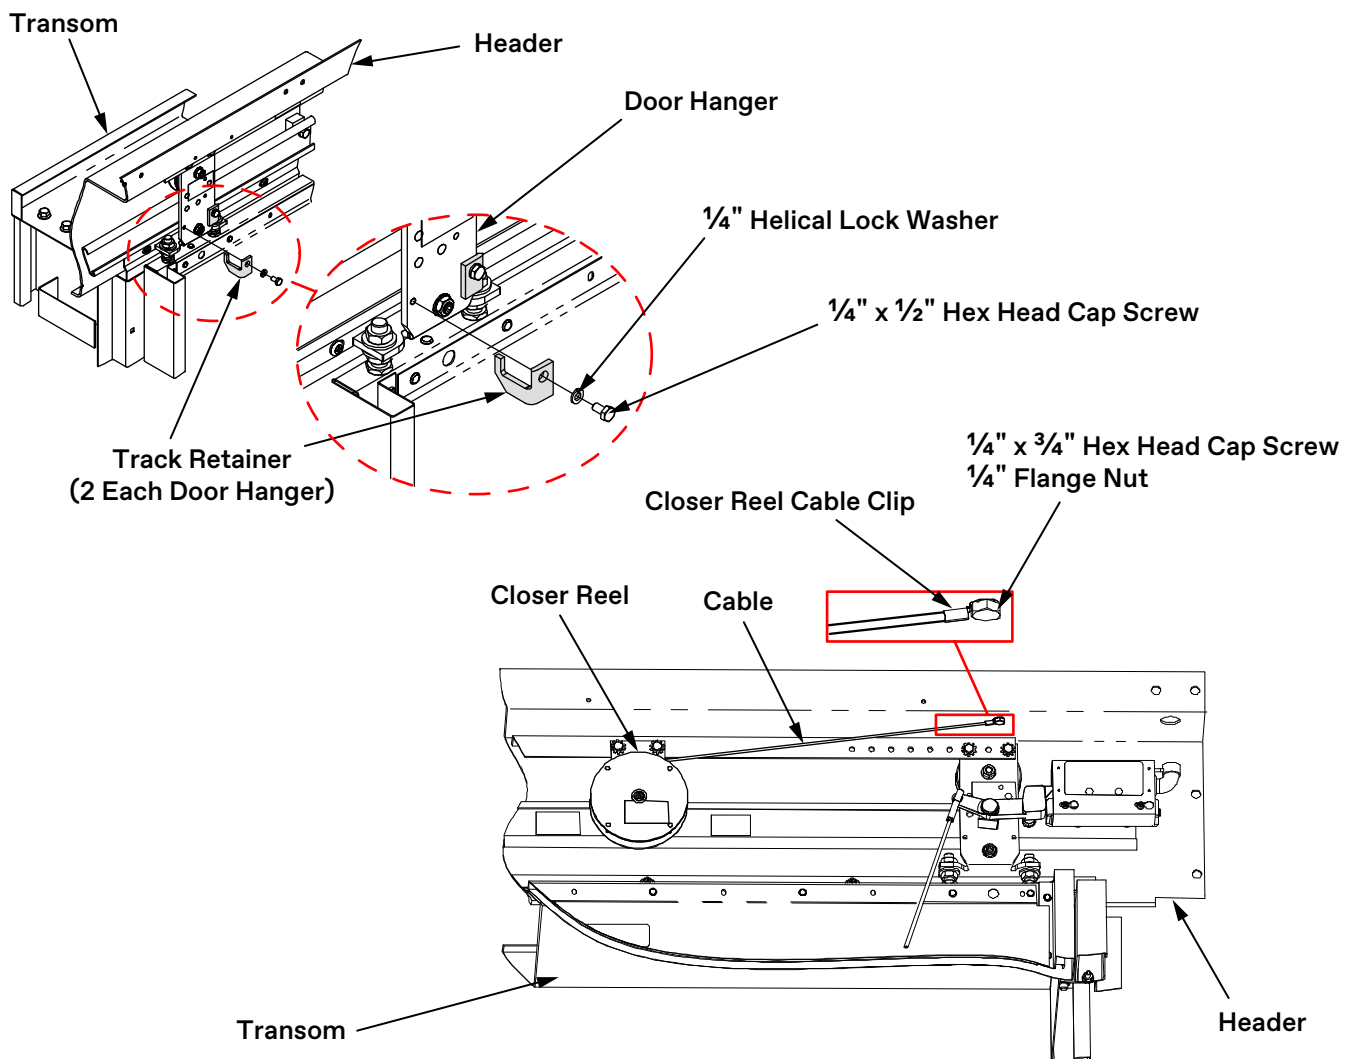

Figure 13 - Adjust Closer Reel and Install Track Retainers
1. Put 3 or 4 wraps on the closer reel, and then use a $\frac{1}{4}$ " x $\frac{3}{4}$ " hex head cap screw and a $\frac{1}{4}$ " flange nut to attach the cable to the header. See Figure 13.